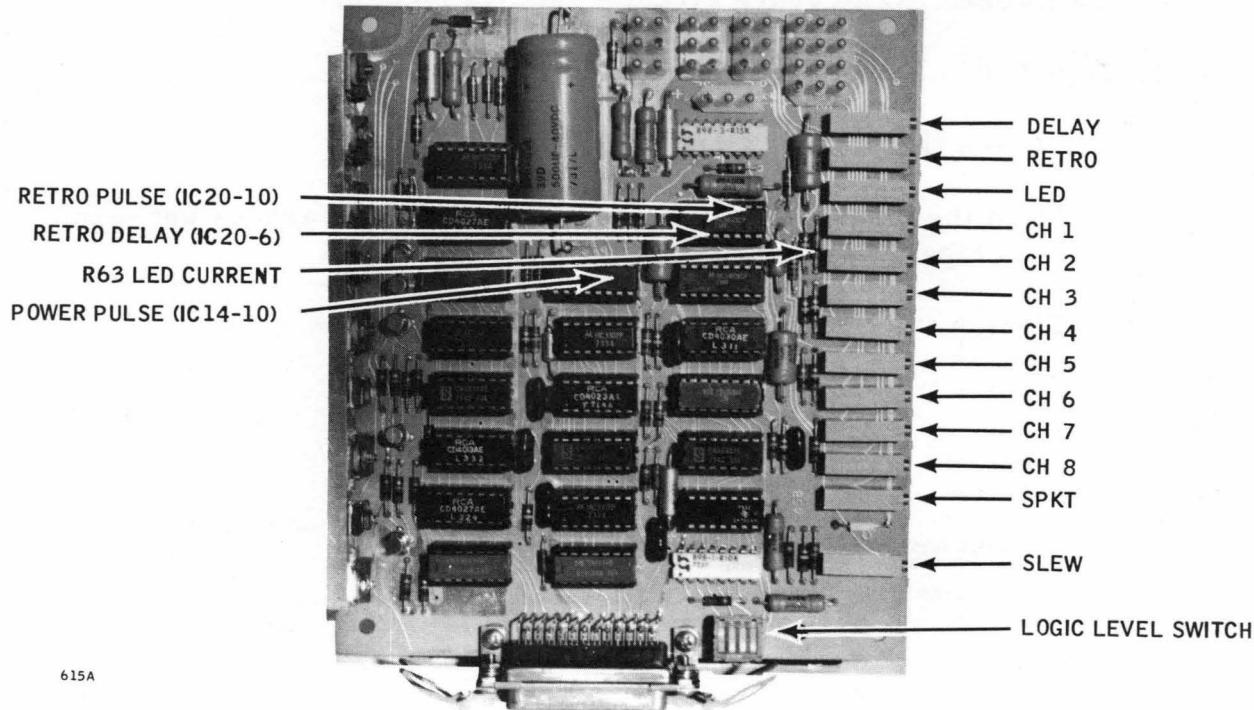
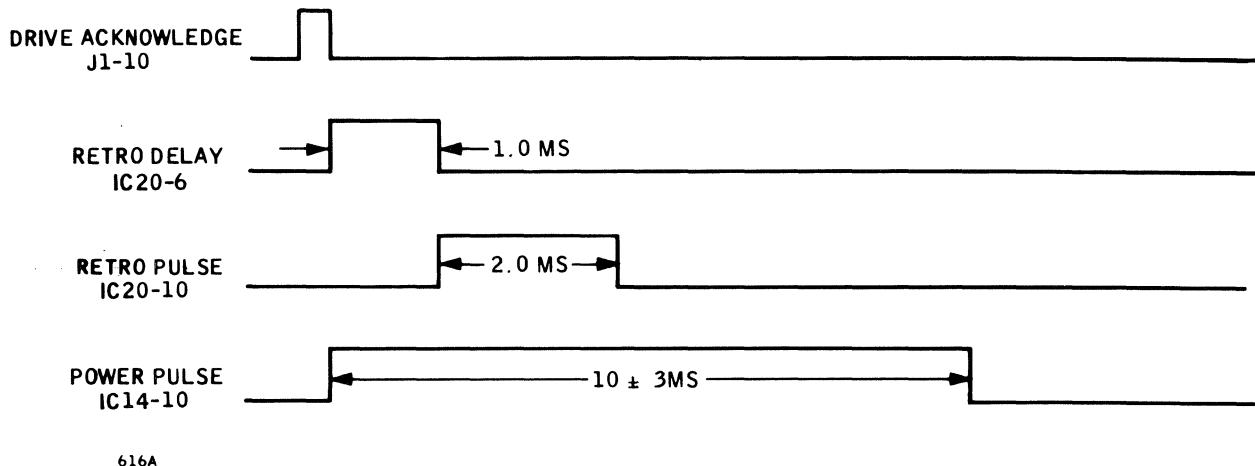

Figure 4-7. Positive Logic PCB Potentiometers and Test Points
Figure 4-8. Stepper Motor Driver Logic Waveforms
- a. On the positive logic PCB (figure 4-7), adjust the LED potentiometer for 2.5 Vdc measured across resistor R63.
- Insert the translucent tape standard (item 7 of table 4-2) between the LED and phototransistor arrays.
- On the positive logic PCB (figure 4-7), adjust the SPKT potentiometer for 3.7 Vdc at J5-9.
- a. Load the checkerboard tape loop (item 4 of table 4-2) and operate in the slew mode.
5. Stepper Motor Driver Logic Adjustments (figure 4-8)
- a. Load the metalized-Mylar tape loop (item 5 of table 4-2) and operate in the step mode.
- b. On the positive logic PCB (figure 4-7), adjust the DELAY potentiometer for a RETRO DELAY pulse width of 1.0 milliseconds.